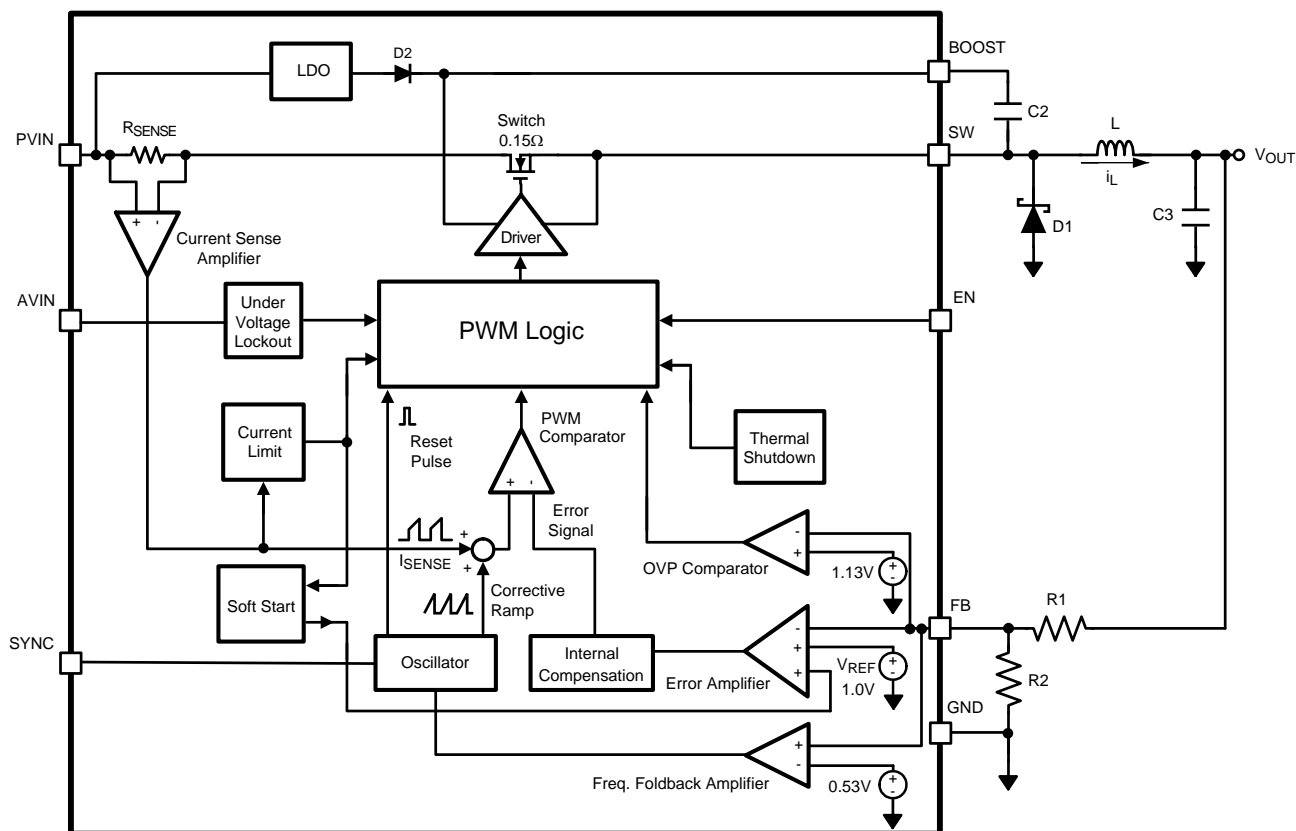
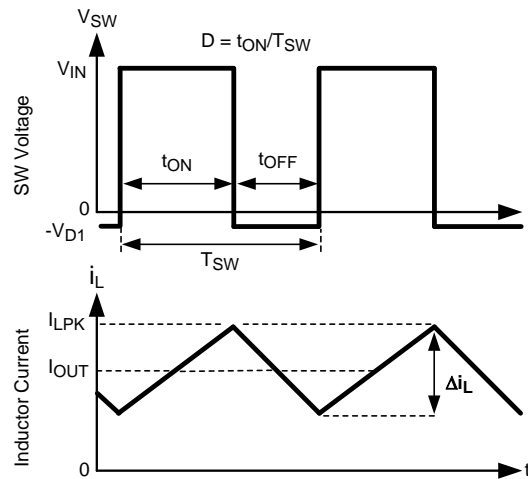

Figure 31.
Figure 32. LM27341/LM27342 Waveforms of SW Pin Voltage and Inductor Current
The following operating description of the LM27341/LM27342 will refer to the Block Diagram (Figure 31) and to the waveforms in Figure 32. The LM27341/LM27342 supplies a regulated output voltage by switching the internal NMOS switch at a constant frequency and varying the duty cycle. A switching cycle begins at the falling edge of the reset pulse generated by the internal oscillator. When this pulse goes low, the output control logic turns on the internal NMOS switch. During this on-time, the SW pin voltage (V_{SW}) swings up to approximately V_{IN} , and the inductor current (i_L) increases with a linear slope. The current-sense amplifier measures i_L , which generates an output proportional to the switch current typically called the sense signal. The sense signal is summed with the regulator's corrective ramp and compared to the error amplifier's output, which is proportional to the difference between the feedback voltage (V_{FB}) and V_{REF} . When the output of the PWM comparator goes high, the switch turns off until the next switching cycle begins. During the switch off-time (t_{OFF}), inductor current discharges through the catch diode D1, which forces the SW pin (V_{SW}) to swing below ground by the forward voltage (V_{D1}) of the catch diode. The regulator loop adjusts the duty cycle (D) to maintain a constant output voltage.
Capacitor C_2 in Figure 31, commonly referred to as C_{BOOST} , is used to store a voltage V_{BOOST} . When the LM27341/LM27342 starts up, an internal LDO charges C_{BOOST} via an internal diode, to a voltage sufficient to turn the internal NMOS switch on. The gate drive voltage supplied to the internal NMOS switch is $V_{\text{BOOST}} - V_{\text{SW}}$.
During a normal switching cycle, when the internal NMOS control switch is off (t_{OFF}) (refer to Figure 32), V_{BOOST} equals V_{LDO} minus the forward voltage of the internal diode (V_{D2}). At the same time the inductor current (i_L) forward biases the catch diode D1 forcing the SW pin to swing below ground by the forward voltage drop of the catch diode (V_{D1}). Therefore, the voltage stored across C_{BOOST} is
Inductor selection is critical to the performance of the LM27341/LM27342. The selection of the inductor affects stability, transient response and efficiency. A key factor in inductor selection is determining the ripple current (Δi_L) (see Figure 32).
Secondly, the slope of the ripple current affects the current control loop. The LM27341/LM27342 has a fixed slope corrective ramp. When the slope of the current ripple becomes significantly less than the converter's corrective ramp (see Figure 31), the inductor pole will move from high frequencies to lower frequencies. This negates one advantage that peak current-mode control has over voltage-mode control, which is, a single low frequency pole in the power stage of the converter. This can reduce the phase margin, crossover frequency and potentially cause instability in the converter. Contrarily, when the slope of the ripple current becomes significantly greater than the converter's corrective ramp, resonant peaking can occur in the control loop. This can also cause instability (Sub-Harmonic Oscillation) in the converter. For the power supply designer this means that for lower switching frequencies the current ripple must be increased to keep the inductor pole well above crossover. It also means that for higher switching frequencies the current ripple must be decreased to avoid resonant peaking.